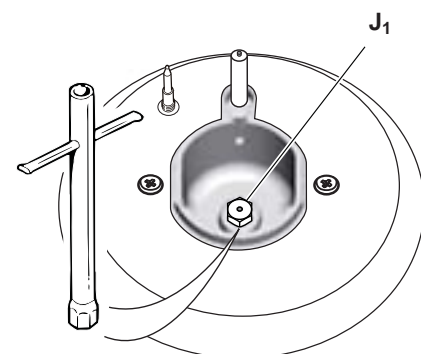

Fig. 2.11
- Using a wrench substitute the nozzle orifices "J1", "J2" and "J3" (figs. 2.11, 2.12) with those most suitable for the kind of gas for which it is to be used.